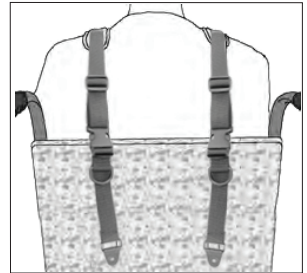

Figure 3
3. Attach Upper Straps to the backrest with appropriate screws or bolts (not included) as shown in Figure 3.